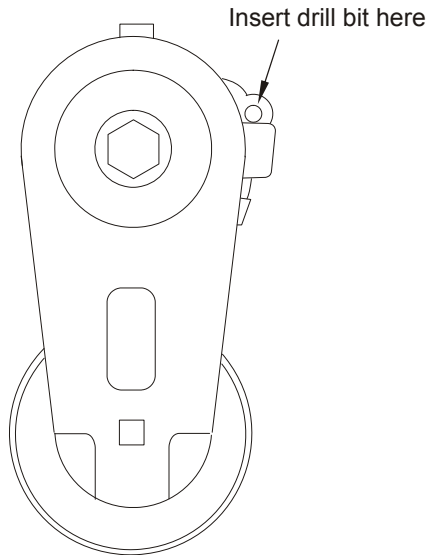

Figure 2.3
- Lock the OEM main belt and air conditioning tensioners by rotating them counter-clockwise until the protruding boss clears the locking hole, insert a 7/32 inch drill bit and ease the tensioner back until it rests on the drill bit (Figure 2.3).